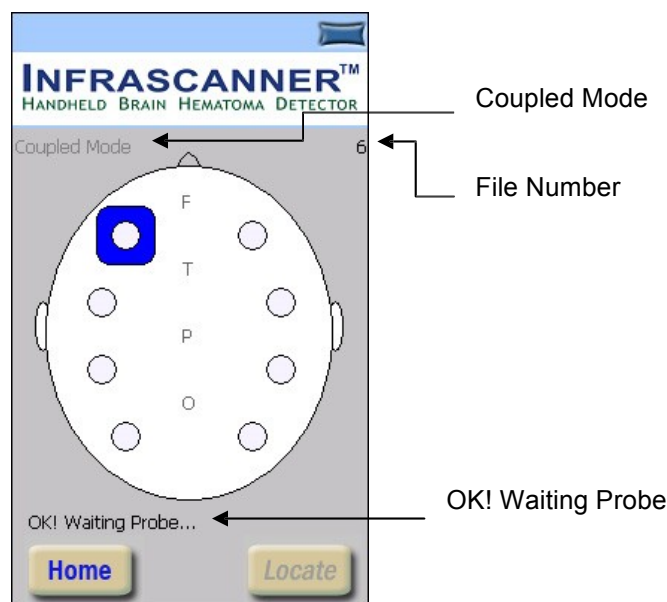

Figure 5-7: Measurement Screen
- Press the Measure button again to go to the Measurement screen. The file number appears in the upper right corner, (see Figure 5-7).
- The indicator in the upper right corner of the screen shows the battery capacity status, See Figure 5-7.
- Verify that the “OK, Waiting probe” message appears on the bottom left of the screen. Verify that “Coupled Mode” is indicated on the top left of the screen (see Figure 5-7). If a “communications error” message is indicated instead of the “OK, Waiting probe” message, remove the Disposable Fiber Optic Shield and put it back on to reset the Infrascanner. Re-initiate the data collection.